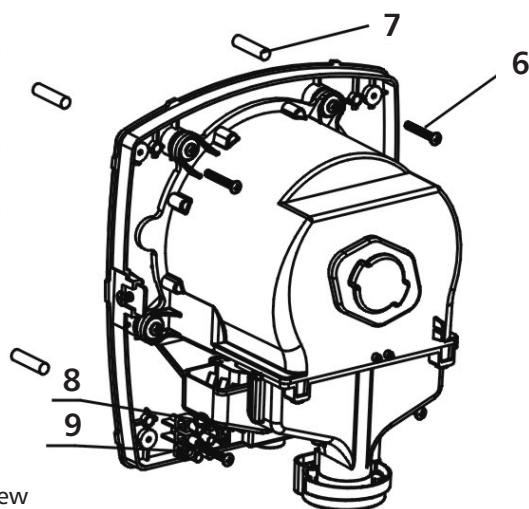

fig. 4
2. Fix the hand dryer to the wall using the wall plugs and screws provided (Fig. 4)